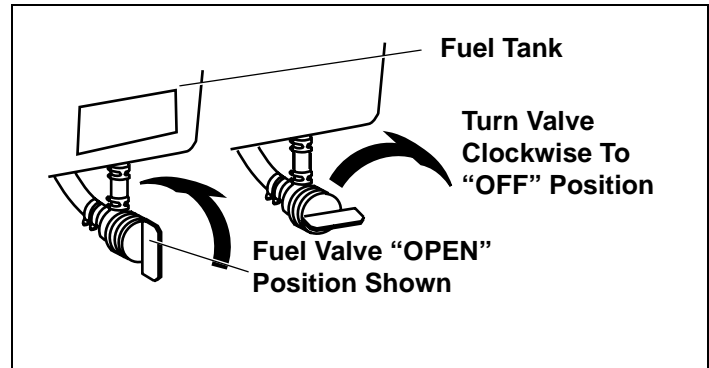

Figure 20. Optional Fuel Valve Positions
2. Be sure fuel valve is open, if provided. See Figure 20.
2. Be sure fuel valve is open, if provided. See Figure 20 on page 12. Afterward, continue reading instructions below.